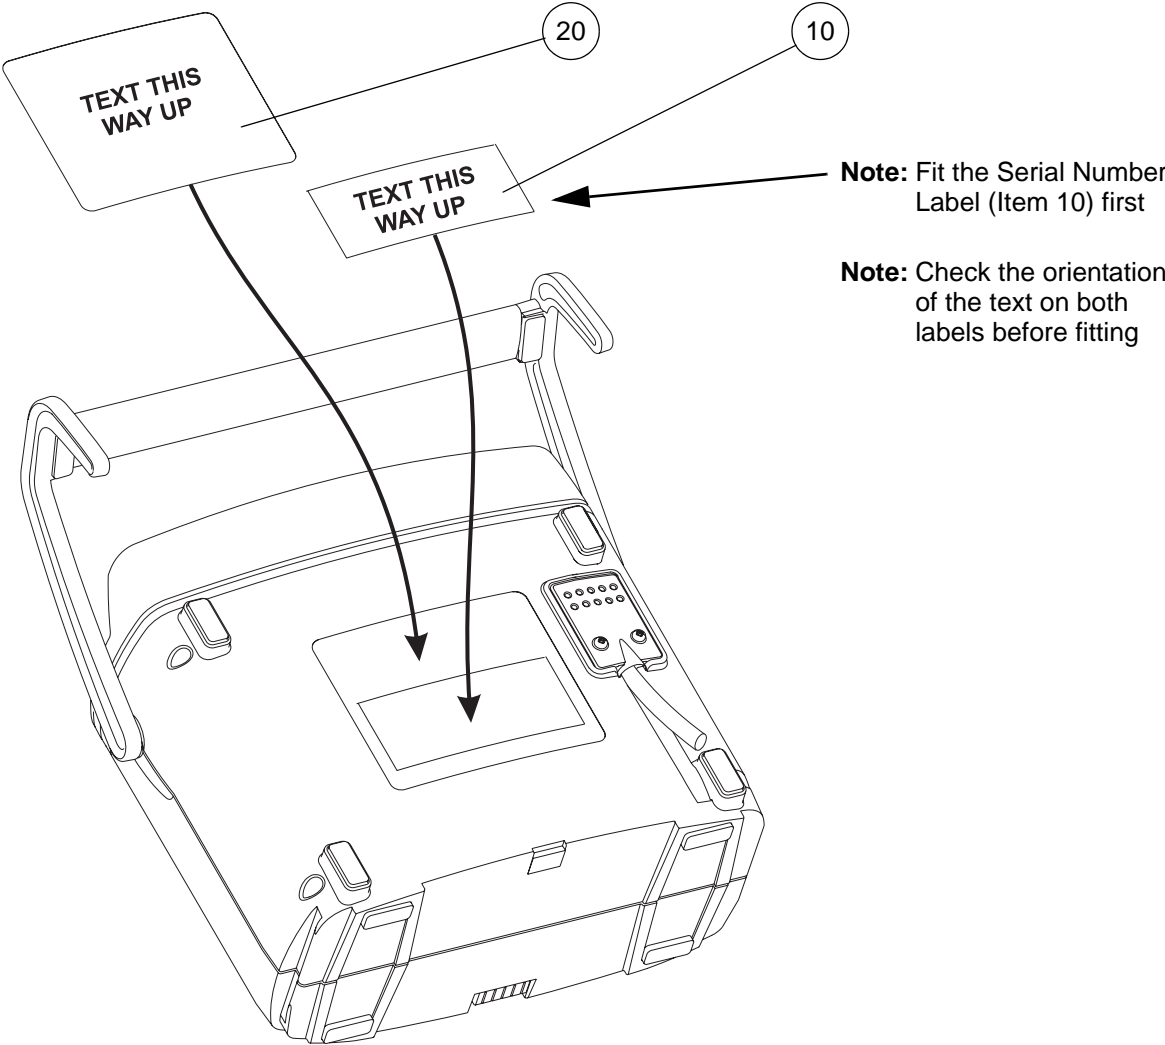

Figure 32 - Pump Labels
- 2.1 Stick the serial number label (Fig 32, Item 10) onto the rear case. Make sure the orientation of the text on the serial number label is correct (Refer to Figure 32).
- 2.2 Put the product label (Fig 32, Item 20) over the serial number label, and stick it onto the rear case. Make sure the orientation of the text on the product label is correct (Refer to Figure 32).